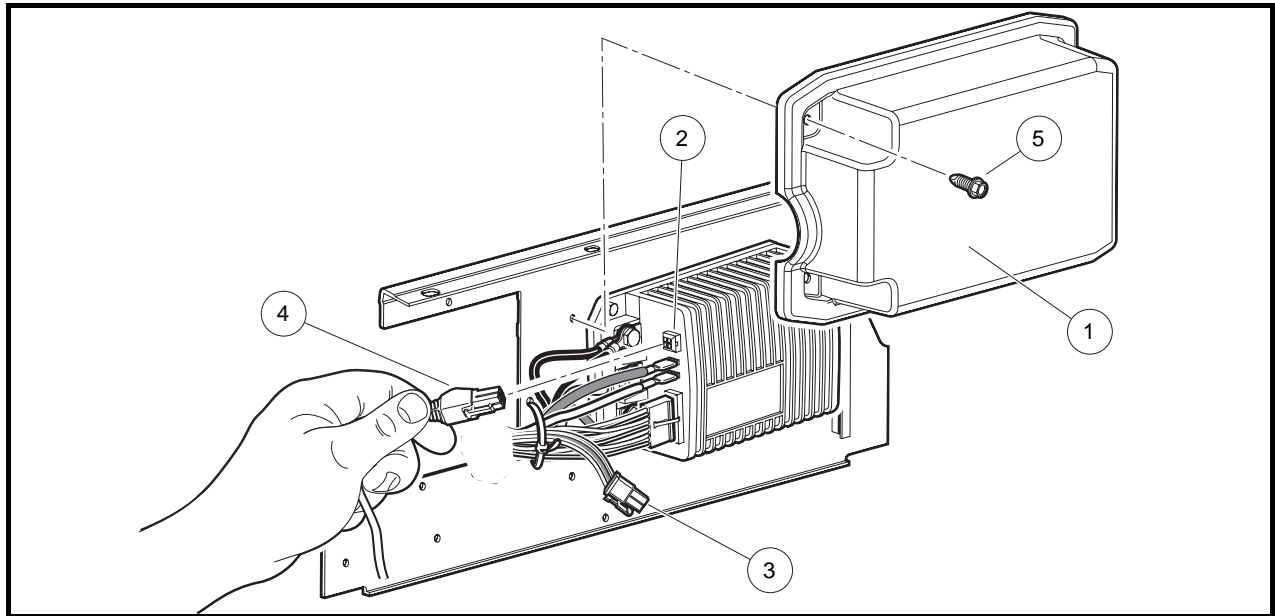

Figure 12-8 IQ System Component Mounting Plate
- 4.2. Remove the two screws (5) securing the controller cover (1) to the component mounting plate (**Figure 12-8, Page 12-19**).
- 4.5. Connect the other end of the handset cord (without the adapter) (4) to the four-pin connector of the speed controller (2) (**Figure 12-8, Page 12-19**).